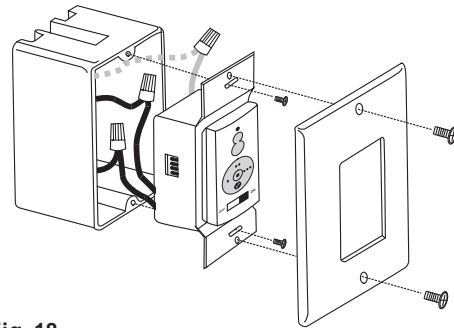

Fig. 18
Step 3. Carefully tuck the wire connections inside the outlet box. Use the screws provided to secure the wall transmitter and wall plate to the outlet box. (Fig. 18)